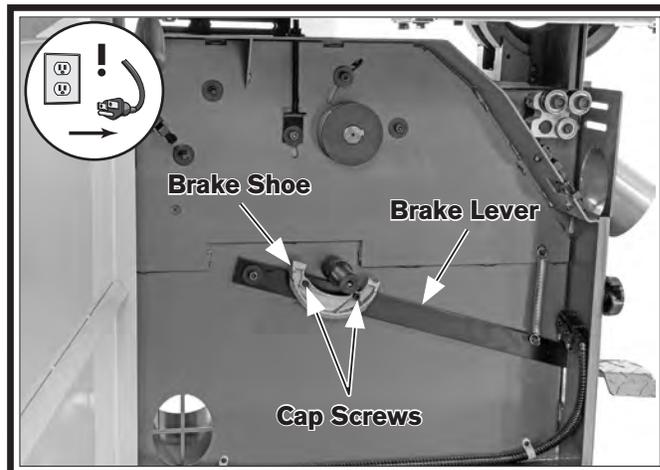

Figure 111. Lower wheel removed to expose brake shoe components.
- Remove cap screws, lock washers, and bushings that secure brake shoe to brake lever, then remove brake shoe (see **Figure 111**).